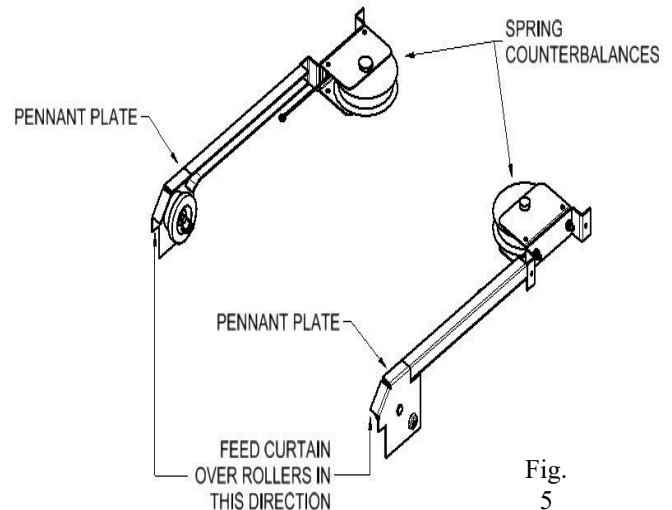

Fig. 5
- a) Feed the top slat of the shutter over the nylon rollers and into the top track (Fig. 5). Insert the curtain until the bottom rail is against the header.